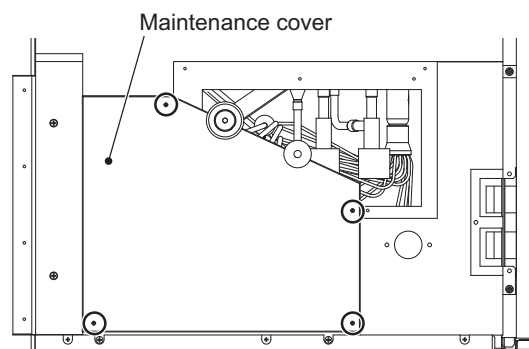

Fig.4
- (5) Remove the maintenance cover. (fixing screws: four) (Fig.4)